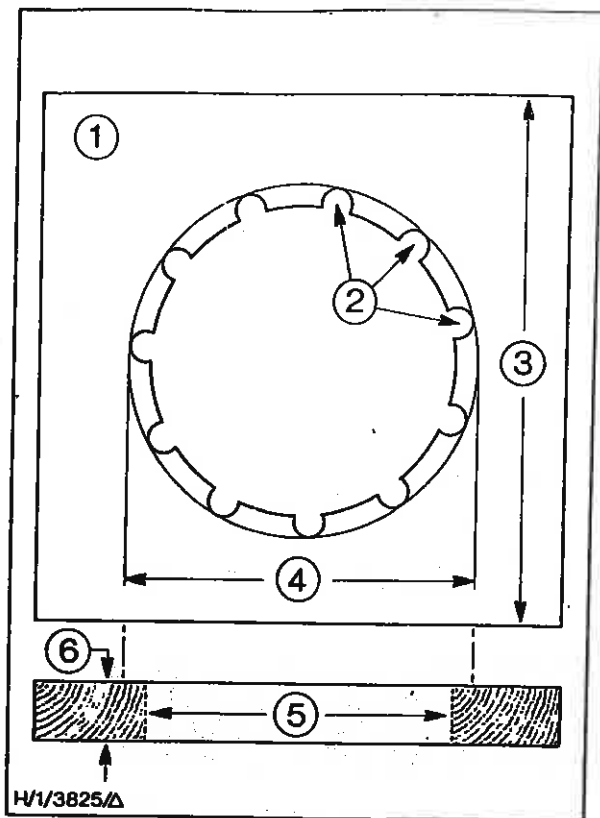

Fig. 42 - Holding Fixture Dimensions
4. Mount the centre housing assembly in a suitable fixture to stop the turbine wheel turning. If the nut on the turbine end of the shaft has not been ground off for balancing this may be located in a socket held in a vice. Otherwise manufacture a simple fixture as shown in the illustration, Fig. 42.